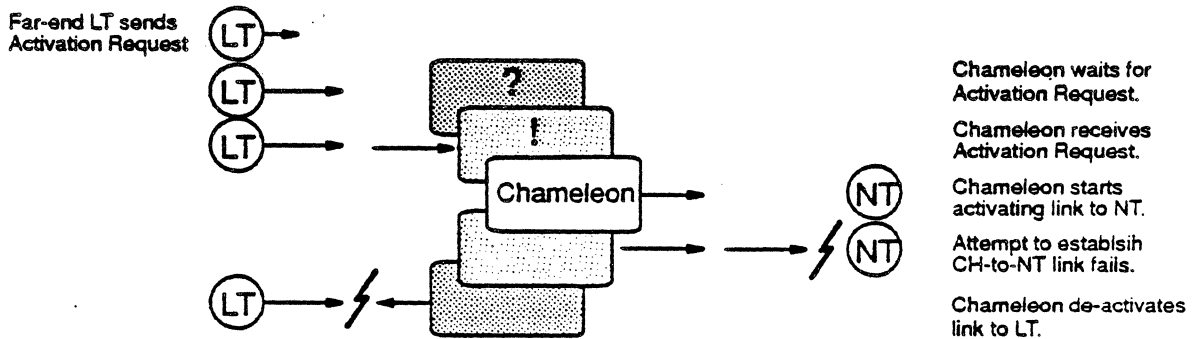

Figure 22.8 LT-initiated Link Establishment in the Semi-Auto Mode.
**Semi-Auto** After the 2B1Q Run-Time Menu is loaded, the Chameleon waits for an activation request from the far-end interfaces before proceeding. Figure 22.8 illustrates this process from the LT end of the link and how the Chameleon reacts to a failure to establish a link.